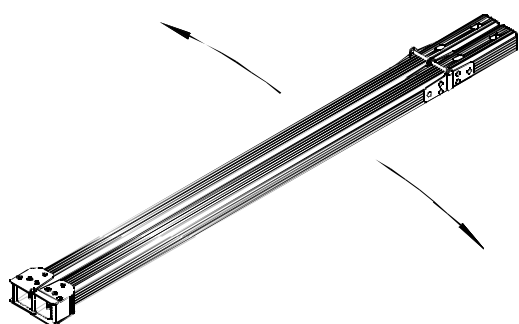

fig 10
1. Disimballare le AT-Leg (fig.10)
1. Remove the AT-Leg from its case and wrapping (fig. 10)